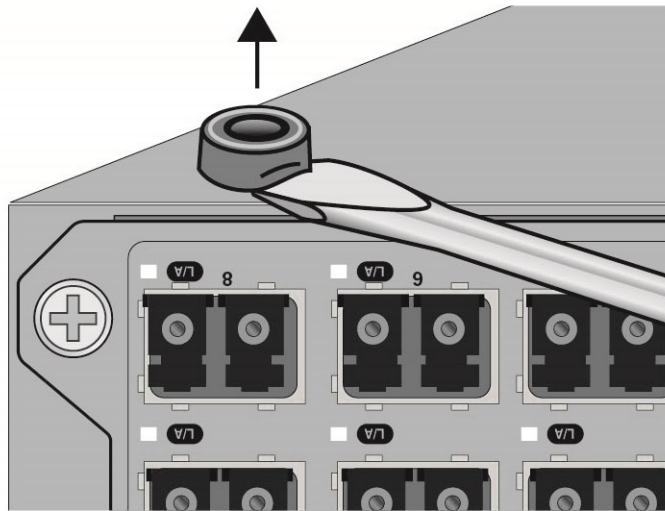

Figure 47. Removing the Bumper Feet
2. Use a small flat-head screwdriver to gently pry the feet from the bottom of the device. Refer to Figure 47.